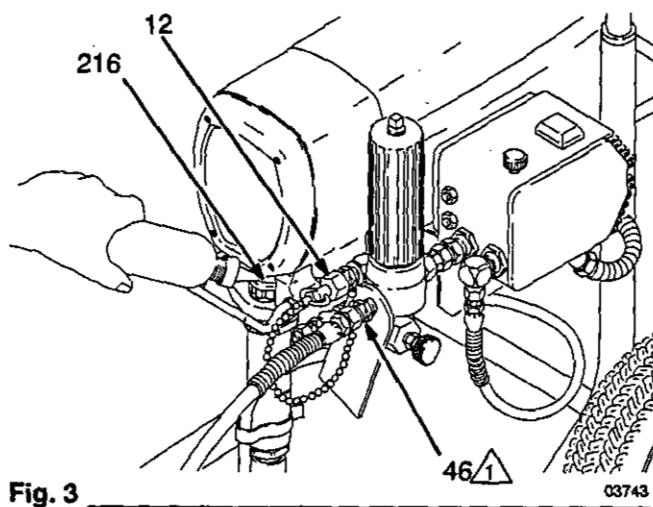
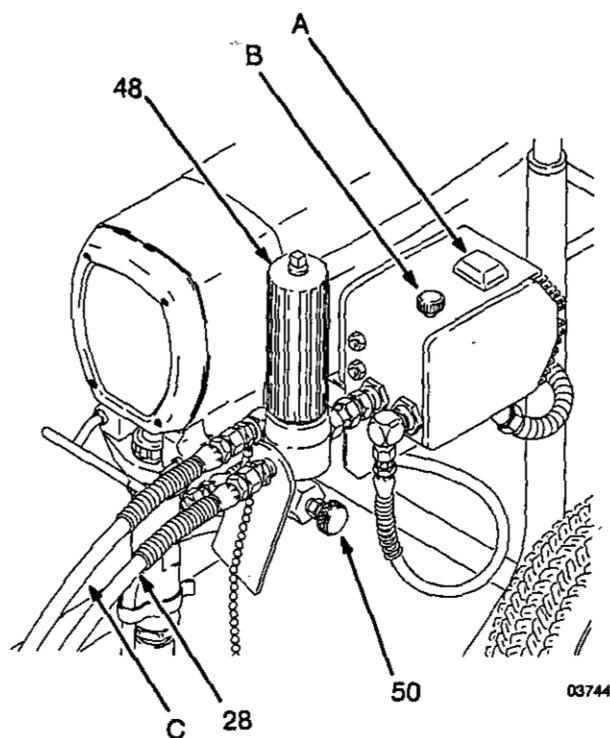

Fig. 3
Fig. 4
1. Connect hose and gun. Refer to Fig. 4.
- Remove the cap from the 1/4 npsm(m) nipple – See Fig. 3. – and attach an accessory hose (C) and gun. See Fig. 4.
- Never install any shutoff device between the filter (48) and the main hose (28). See Fig. 3.
- Always use the main filter outlet (46) for one gun operation. Never plug this outlet. See Fig. 3.
- ## 5. Fill packing nut/wet-cup (216).
- See Fig. 3. Fill the packing nut/wet-cup 1/3 full with Graco Throat Seal Liquid (TSL), supplied.
7. **Plug in the sprayer**. Be sure the ON/OFF switch (A) is OFF. See Fig. 4. Then plug the cord into a grounded electrical outlet at least 6 m away from the spray area.